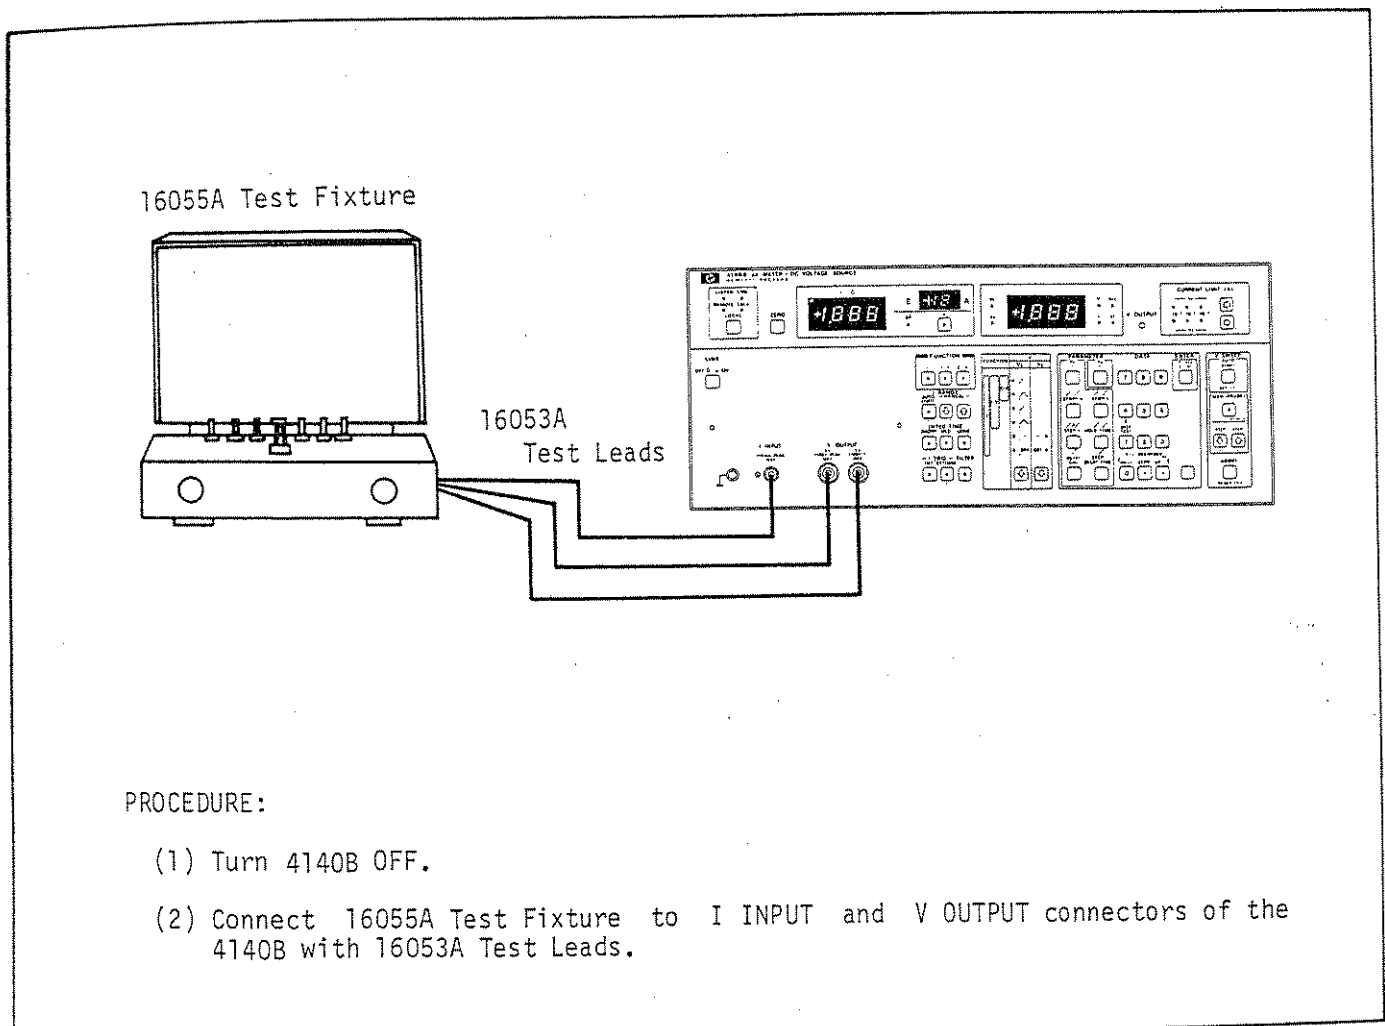

Figure 3-17. I-V Function Operating Instructions (sheet 1 of 4).
- 3-48. Operating instructions for taking an I-V measurement are given in Figure 3-17.